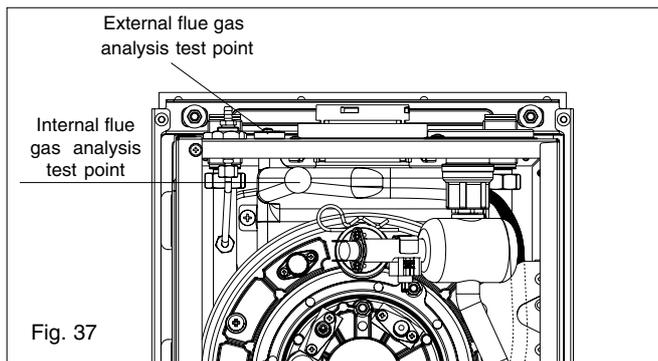

Fig. 37
Isolate the appliance from the electrical supply and remove the appliance casing as described in 4.7.1. Set the flue gas analyser to read CO₂ and insert the probe into the flue analysis test point (fig. 37). Restore the electrical supply to the boiler and switch the boiler to the OFF mode.
- Insert the flue gas analyser probe into the flue gas test point (see fig. 37).